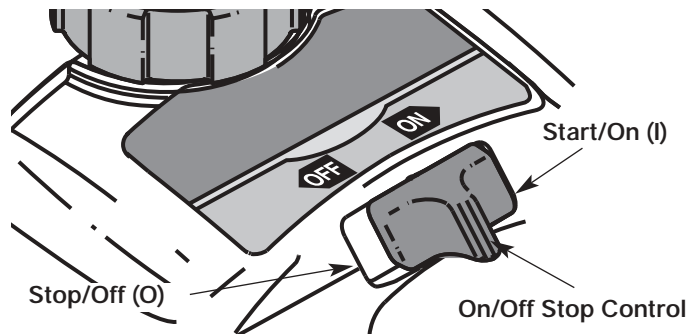
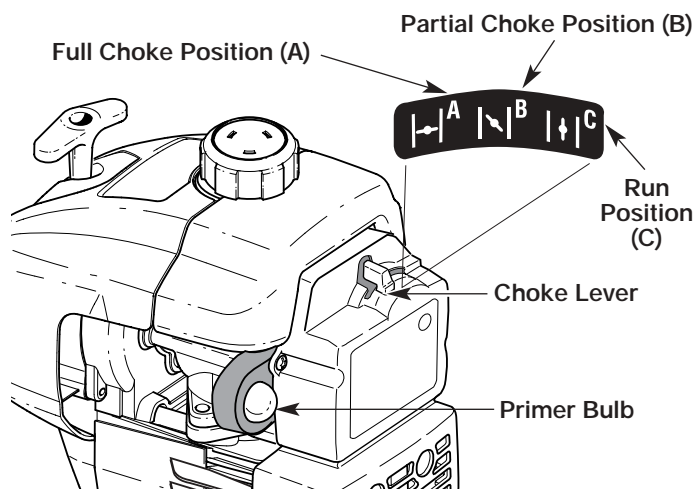

Figure 6
Figure 7
3. Install a screw into the hole from the bottom of the cutting attachment shield and screw it into the nut installed in step #2 (Fig 6). Do not tighten.
2. Put the On/Off Stop Control in the **ON (I)** position. See Figure 6.
3. Fully press and release the primer bulb 10 times, slowly, until **FUEL IS VISIBLE IN THE PRIMER BULB**. See Figure 7. If you can't see fuel in the bulb, press and release the bulb three (3) additional times, or as many times as it takes before you can see fuel in it.
4. Place the choke lever in the **FULL** choke (A |←|) position. See Figure 7.
6. Place the choke lever in the **PARTIAL** choke (B |↖|) position. See Figure 7.
NOTE: If the engine floods while trying to start, place the choke lever in the **RUN** (C |↑|) position. See Figure 7. Squeeze the throttle control. Pull the starter rope briskly. The engine should start within three (3) to eight (8) pulls.
9. Squeeze the throttle control to warm up the engine for 5 to 10 seconds. Place the choke lever in the **RUN** (C |↑|) position. See Figure 7.
NOTE: Choking is unnecessary when starting a warm engine. Put the On/Off Stop Control in the **ON** position (Figure 6), and start in **PARTIAL** choke (B |↖|) position (Figure 7). After starting, place the choke lever in the **RUN** (C |↑|) position.
2. Put the On/Off Stop Control in the **OFF (O)** position. See Figure 6.